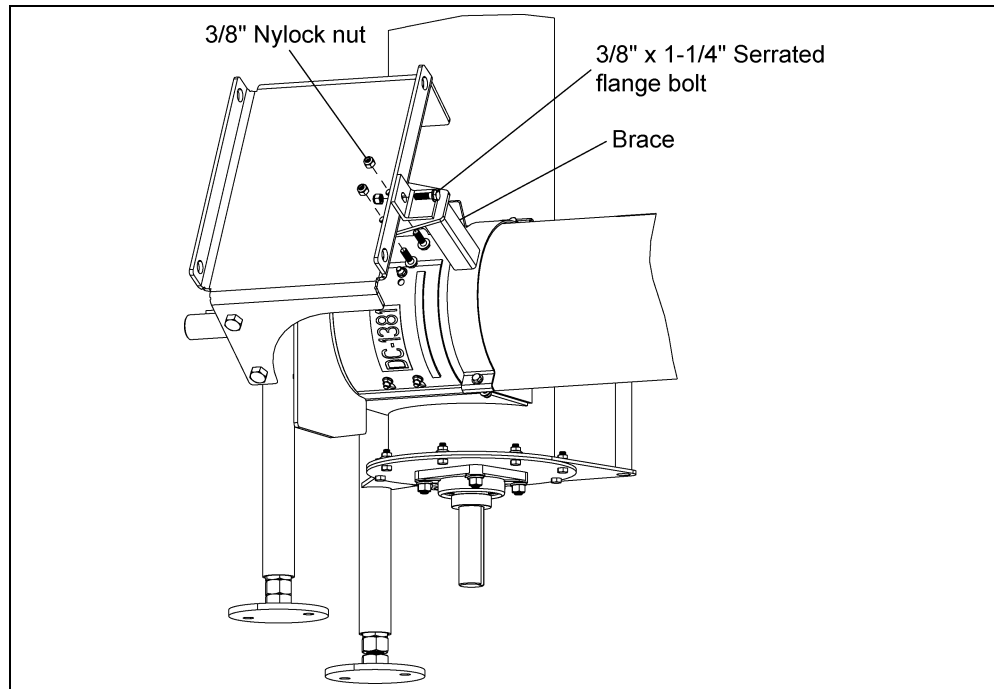

Figure 4J
1. Position brace under motor mount plate aligning the three (3) holes with the slots in the brace.
2. Secure brace to motor mount plate using three (3) 3/8" x 1-1/4" serrated flange bolts and nylock nuts. (See Figure 4J.)